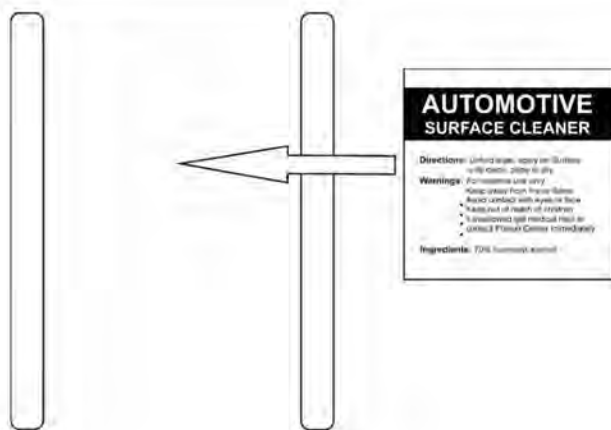

Fig 11
10. Remove the adhesive pedestals and thoroughly clean the outlined area with automotive surface cleaner. Wipe dry with a clean cloth or paper towel. This will ensure all wax, fingerprints, and oils are removed from the hood surface in the bonding area.(Fig 11)